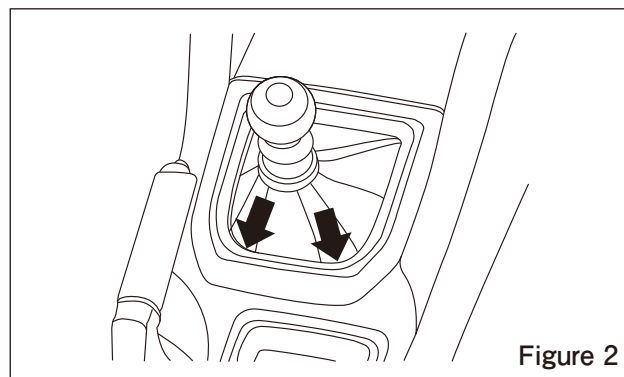

Figure 2
- (2) Remove the Tray ASSY Center Lower (Figure 2)